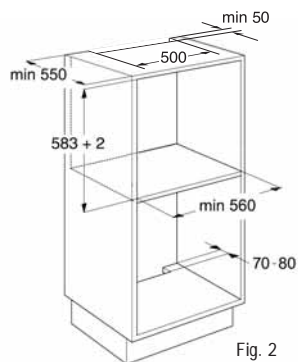

Fig. 2
- In case of installations as shown in fig. 2 do not put any containers containing liquids on the top of the column. It is possible to insert wire shelves to divide the oven recess space, although a useful surface of 250 cm² should be maintained.